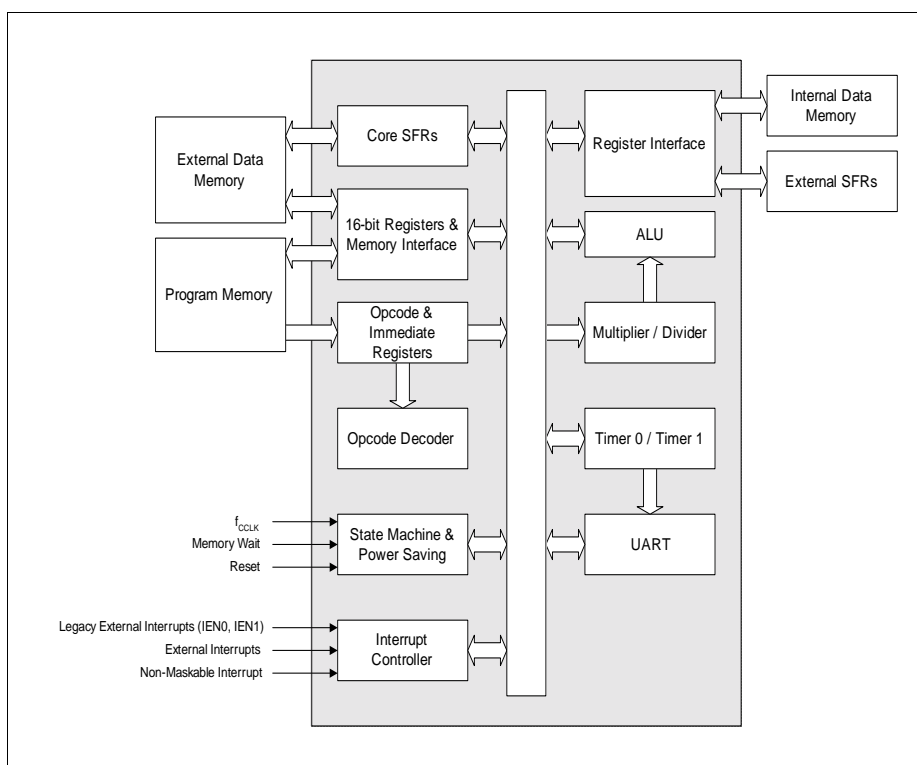

Figure 6 CPU Block Diagram
**Figure 6** shows the CPU functional blocks.